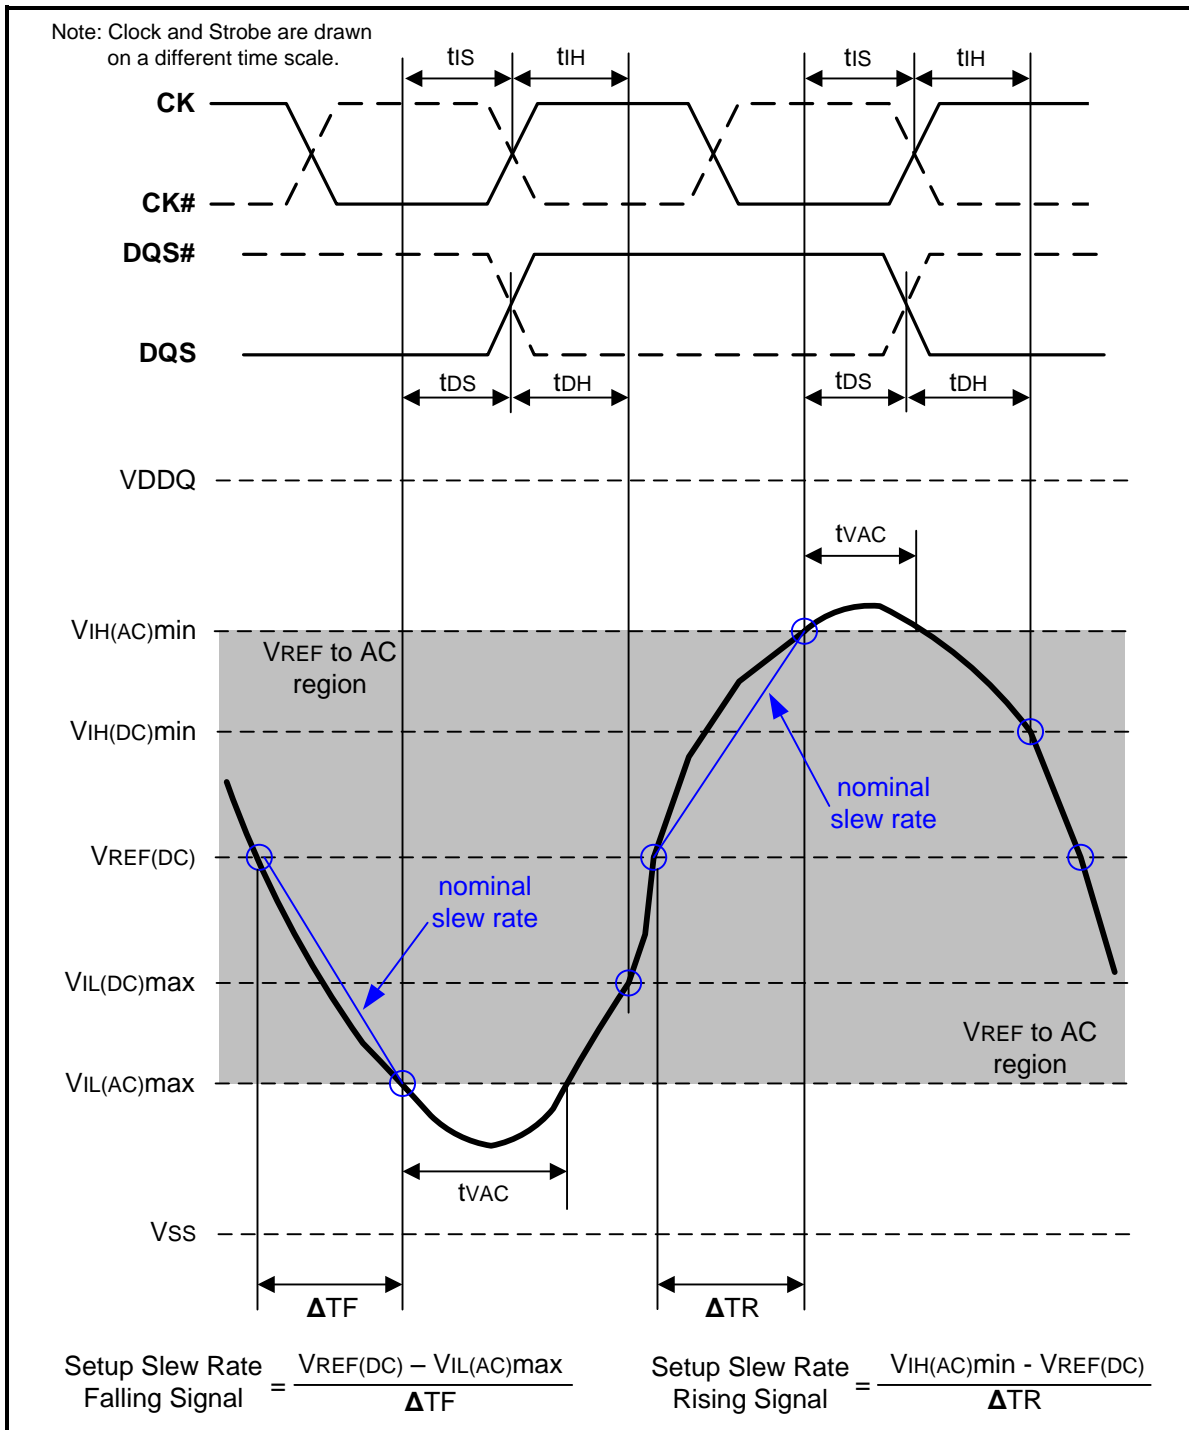

Figure 107 – Illustration of nominal slew rate and tvAC for setup time tDS (for DQ with respect to strobe) and tIS (for ADD/CMD with respect to clock)
Setup ( $t_{IS}$ ) nominal slew rate for a rising signal is defined as the slew rate between the last crossing of  $V_{REF(DC)}$  and the first crossing of  $V_{IH(AC)min}$ . Setup ( $t_{IS}$ ) nominal slew rate for a falling signal is defined as the slew rate between the last crossing of  $V_{REF(DC)}$  and the first crossing of  $V_{IL(AC)max}$ . If the actual signal is always earlier than the nominal slew rate line between shaded 'VREF(DC) to AC region', use nominal slew rate for derating value (see Figure 107). If the actual signal is later than the nominal slew rate line anywhere between shaded 'VREF(DC) to AC region', the slew rate of a tangent line to the actual signal from the AC level to DC level is used for derating value (see Figure 109).
Setup (tDS) nominal slew rate for a rising signal is defined as the slew rate between the last crossing of VREF(DC) and the first crossing of VIH(AC)min. Setup (tDS) nominal slew rate for a falling signal is defined as the slew rate between the last crossing of VREF(DC) and the first crossing of VIL(AC)max (see Figure 107). If the actual signal is always earlier than the nominal slew rate line between shaded 'VREF(DC) to AC region', use nominal slew rate for derating value. If the actual signal is later than the nominal slew rate line anywhere between shaded 'VREF(DC) to AC region', the slew rate of a tangent line to the actual signal from the AC level to DC level is used for derating value (see Figure 109).